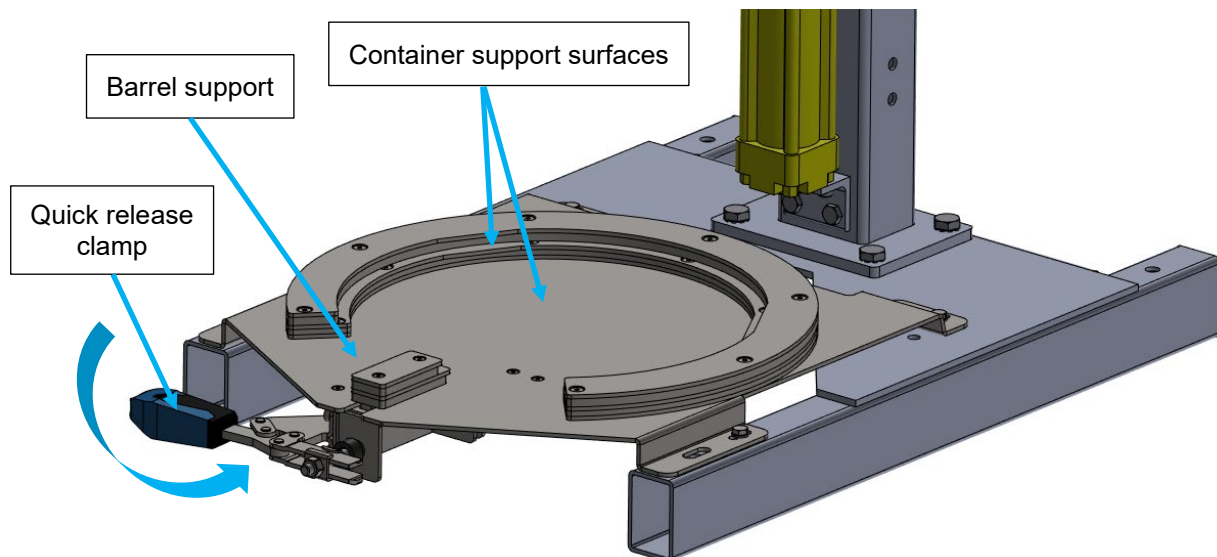

Figure 3: Barrel support
Alternatively to the clamping holder, a barrel support can also be used to secure the agitator container (Figure 3):
- Barrel support: Here, the agitator release is split across two pneumatic valves. One pneumatic valve is activated on the underside of the support when a container is positioned on the barrel support and the quick-release clamp is closed (Figure 3). The second part is controlled via the agitator release of the height adjustment unit (Figure 12; Figure 13) or through the agitator release integrated into the lid. The agitator release in the lid is only triggered once the lid is resting on the agitator container. The agitator release of both the height adjustment unit and the lid also limits the downward travel of the lifting cylinder.